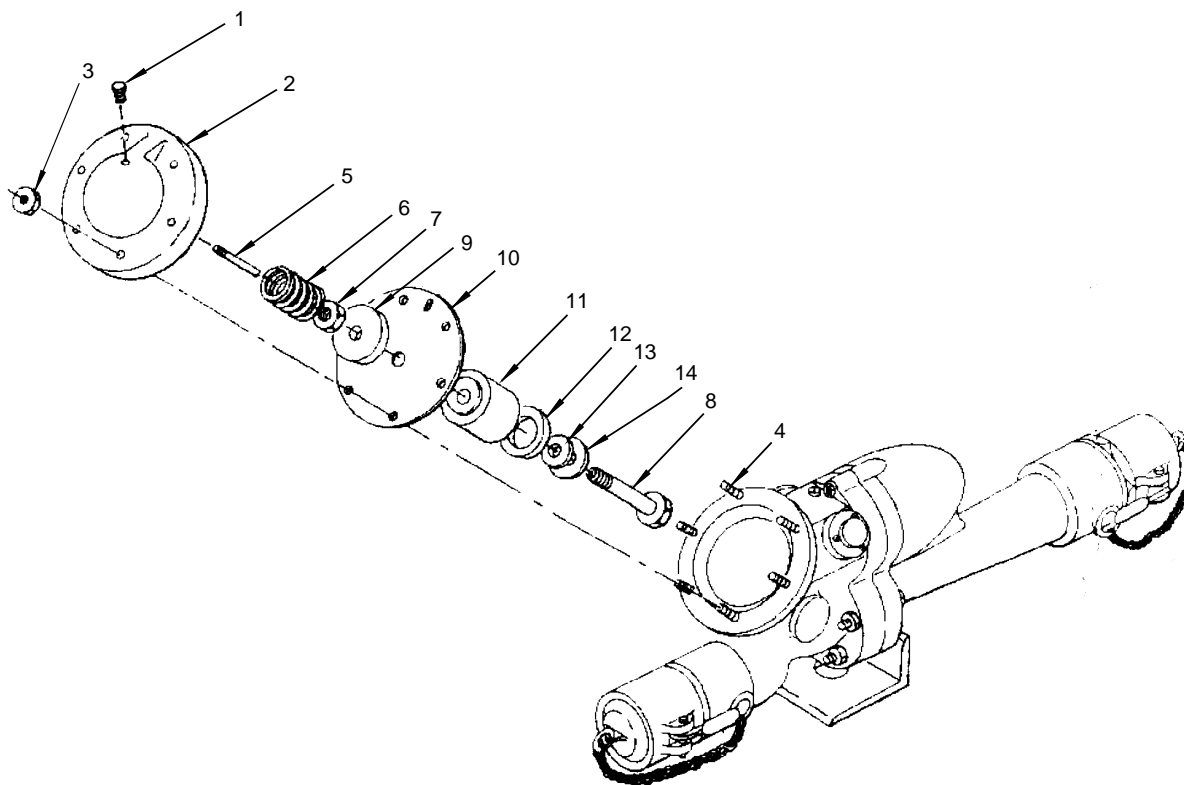

Figure 1. Pressure Control Diaphragm Valve
1. Attach chains (13), hooks and key rings (12), and clevis pins (11) to connecting legs (3) and secure with cotter pin (10).
2. Connect the two braces (7) and install capscrews (8) and nuts (9).
3. Connect the two braces (7) to the connecting legs (3) and secure with screws (5) and nuts (6).
4. Attach the upper legs (4) to the connecting legs (3) with pins (2) and setscrews (1).
**DIAPHRAGM VALVE REMOVAL AND DISASSEMBLY** (Refer to figure 1.)
1. Remove the plug (1) from the cover (2), position pressure control over a drip pan and drain residual fuel from cover (2).
2. Hold down the cover (2) firmly to prevent spring action and remove nuts (3) from studs (4). Gradually release pressure on cover and remove cover from studs.
3. Unscrew and remove guide shaft (5) from cover (2).
4. Remove spring (6) from pressure control. Carefully lift diaphragm valve (10) from pressure control, taking care not to damage diaphragm on cover mounting studs (4).
5. Remove nut (7) from machine screw (8).
6. Remove large washer (9), diaphragm (10), poppet (11), disk (12), spacer (13), and small washer (14) from machine screw (8).
**DIAPHRAGM VALVE CLEANING, INSPECTION AND REPAIR** (Refer to figure 1.)
**DIAPHRAGM VALVE ASSEMBLY** (Refer to figure 1.)